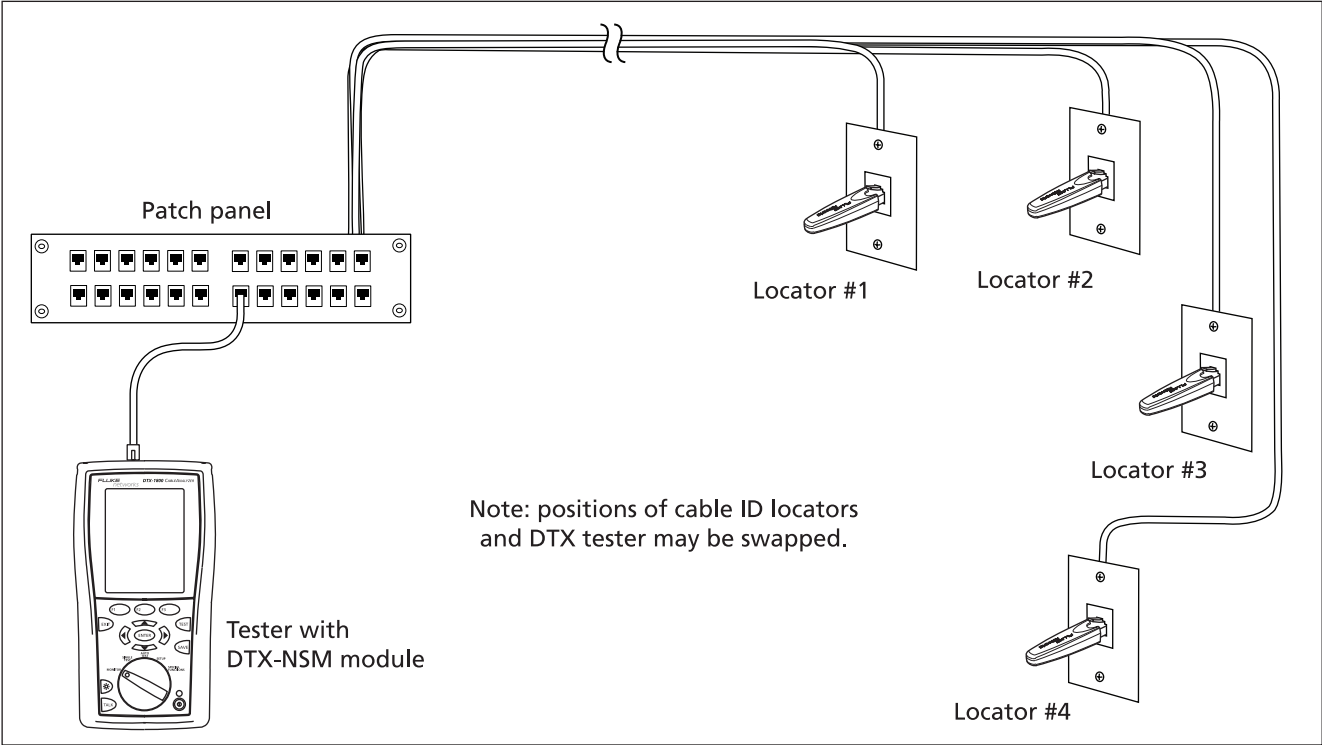

Figure 27. Identifying Links with Optional LinkRunner Cable ID Locators
- 1 Connect the tester and ID locator(s) as shown in Figure 27.